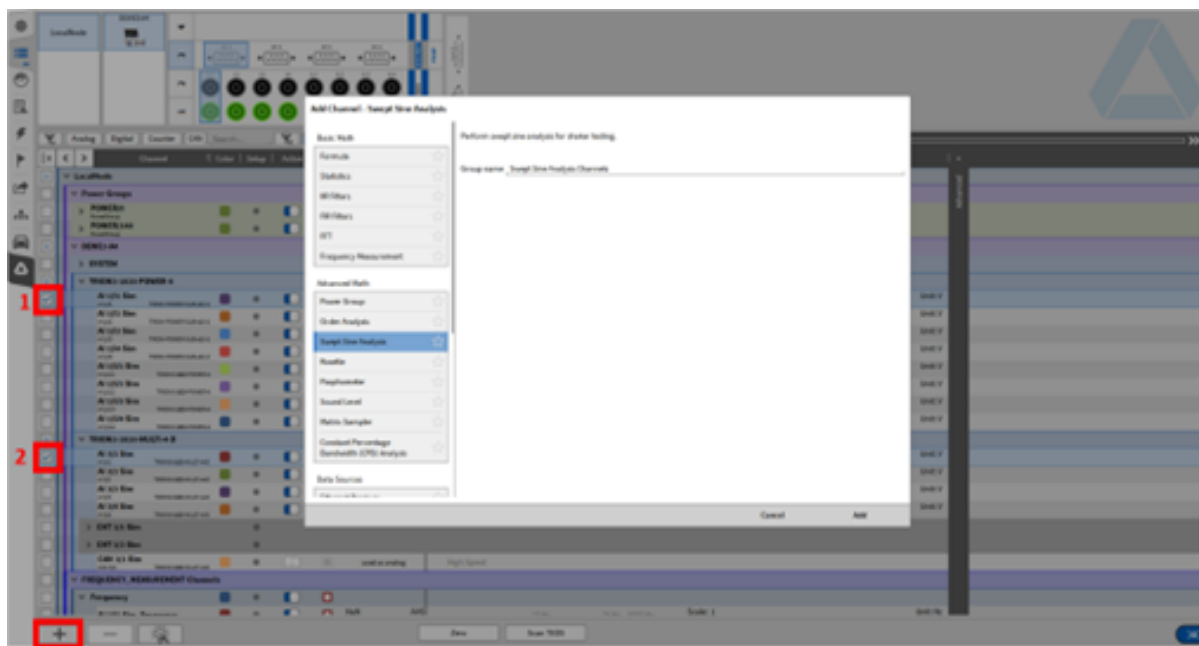

Fig. 7.135: Swept Sine Analysis
1. At first, mark the checkbox of the channel which provides the reference signal for the Swept Sine Analysis (see ① in Fig. 7.135)
2. Next, mark the channel that provides the signal measured on the signal sink (see ② in Fig. 7.135). Several sink signals could be applied to one Swept Sine Analysis group.
3. Click on the *PLUS* (see ③ in Fig. 7.135) sign to open the math setup and select *Swept Sine Analysis*. Edit the channel group name if desired and click on the *OK* button afterwards.